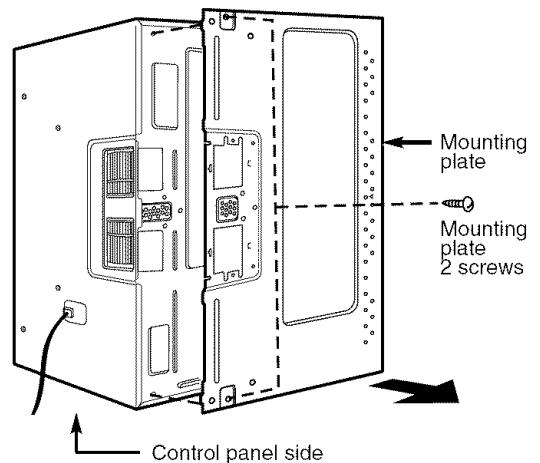

Figure 11
3. Remove mounting plate 2 screws from the mounting plate as shown and discard them. (See **Figure 11**.)